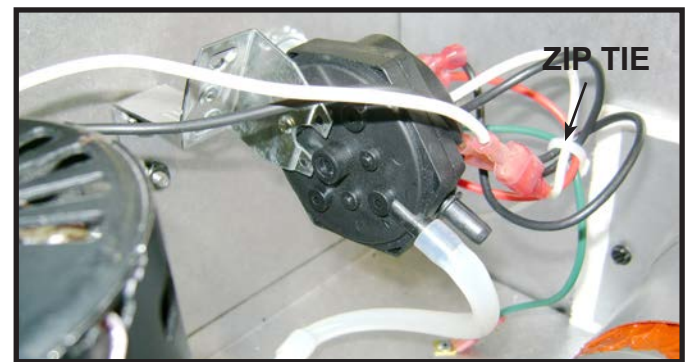
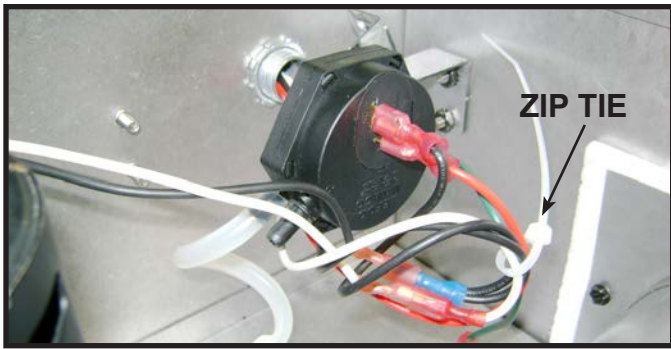

Figure 7.18 PVI Horizontal Orientation - Switch and Wire
Figure 7.19 PVI Vertical Orientation - Switch and Wire
- Attach the end of the harness with the loose wires to the PVI-DVP. Use supplied zip ties to contain all loose wiring. See Figure 7.18 and Figure 7.19.
of the PVI. Move and secure the vacuum switch onto the adjacent wall using the two bolts that are sticking out of the surface. See Figures 7.18 and 7.19 for reference.